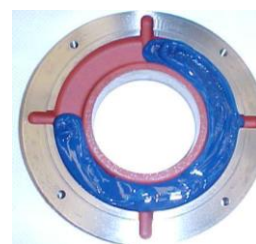

Figure 7.4: Outer bearing cap
- Fill up to $\frac{3}{4}$ of the inner and outer bearing cap deposits with the recommended grease (Figure 7.4) and lubricate the rolling bearing with enough grease before assembling it;
When the bearing is opened, inject the new grease through the grease nipple to expel the old grease found in the grease inlet tube, and apply the new grease in the rolling bearing, to the inner and outer rings, filling $\frac{3}{4}$ of the empty spaces, as shown in Figure 7.4. In case of double bearings (ball bearing + roller bearing), also fill $\frac{3}{4}$ of the empty spaces between the intermediate rings; Never clean the rolling bearing with cotton-based cloths because they leave some lint, working as solid particles.